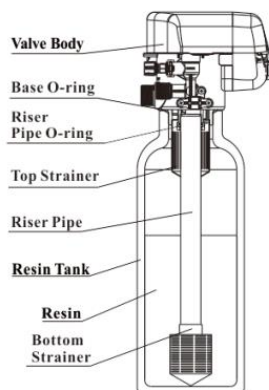

Figure 5
- ① The filter or softener should be located closely to drain.
- ② Ensure the unit is installed in enough space for operating and maintenance.
- ③ Brine tank needs to be close to softener.
- ④ The unit should be kept away from the heater, and not be exposed outdoor. Sunshine or rain will cause the system damage.
- ⑤ Avoid installing the system in circumstance of acid/alkaline, magnetic or strong vibration, because above factors will cause the system disorder.
- ⑥ Do not install the filter or softener, drain pipeline or overflow pipe in circumstance which temperature may drop below 5°C, or above 50°C.
- ⑦ Install the system in the place where with the minimum loss in case of water leaking.
- ① Install control valve
a.As the Figure 5 shows, select the riser pipe with 26.7 mm OD, glue the riser pipe to the bottom strainer and put it into the resin tank, cut off the exceeding pipe out of tank top opening and make external rounding.